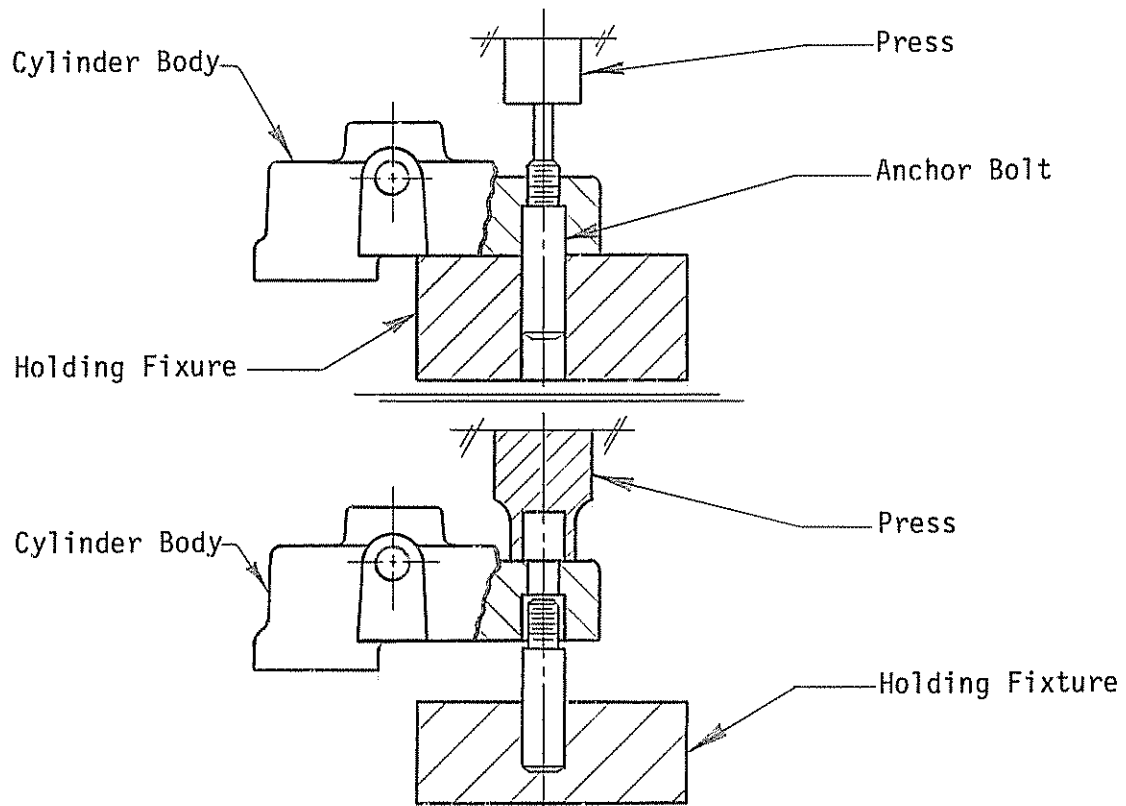

Figure 3 - Anchor Bolt Removal
11.2.4.1 If removed, press anchor bolts Item #15 (ref. Figure 3) into brake and install washers Item #18 and nuts Item #16. Torque bolts to 85-90 in-lbs.